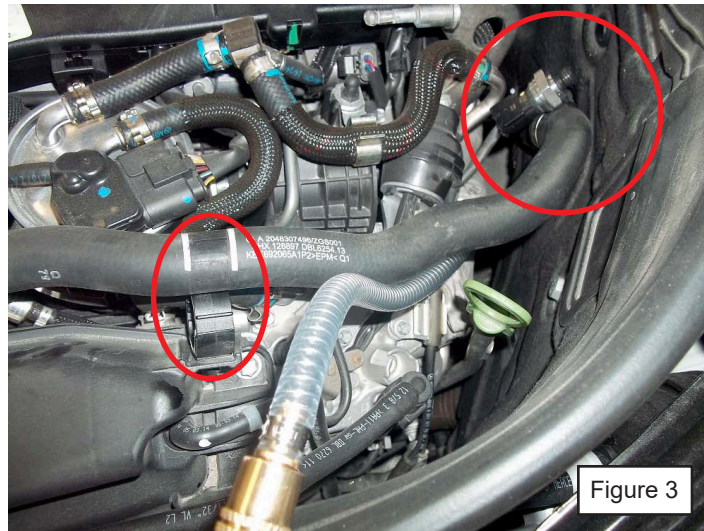

Figure 3
4. Unclip hose clamp for easier moving of hose (see figure 3).
5. Disconnect exhaust back pressure electrical. Remove exhaust back pressure sensor. Reconnect electrical connector (see figure 3)
6. Install EGR Adapter (EEDF400-535) in its place hand tight (see figure 3).